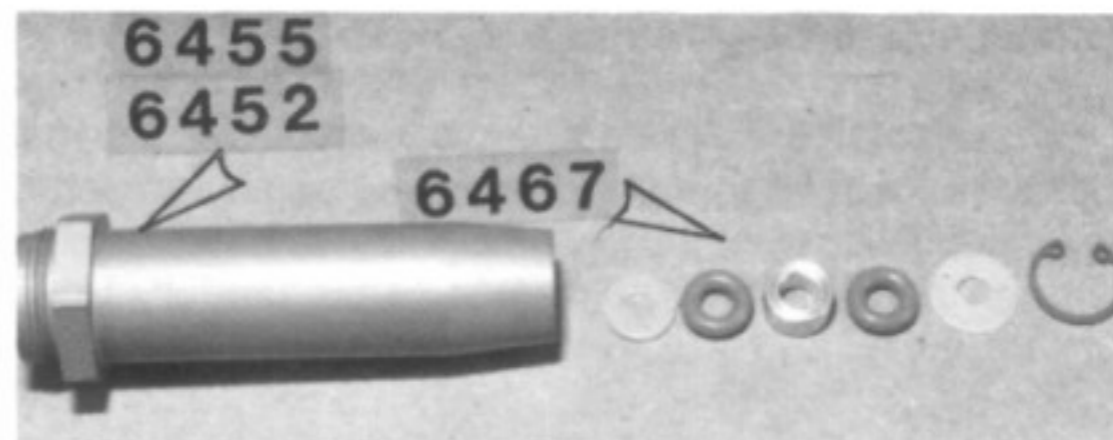
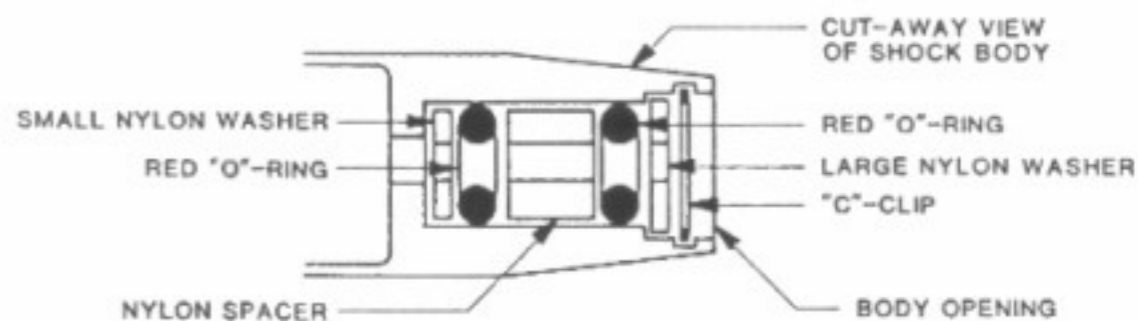

Fig. 120
Fig. 120a
□ **Fig. 120** Take the #6452 and install the parts in the end in the order shown (see also Fig. 120a). First, push the small nylon washer in all the way to the stop. Next push in one red "O" ring. Then the nylon spacer, and now the 2nd red "O" ring. Then the large nylon washer. Now install the large inner "C" clip. Start one end of the clip in, hold it down with your finger. Now, with a small screwdriver, push the other end over and in. If you have trouble installing the clip try this other method: start one end of the clip in and hold it down with your left thumbnail. Now start working your right thumbnail around, pressing the ring into the hole as you go. By the time you get to the other end of the clip it will snap into the groove.